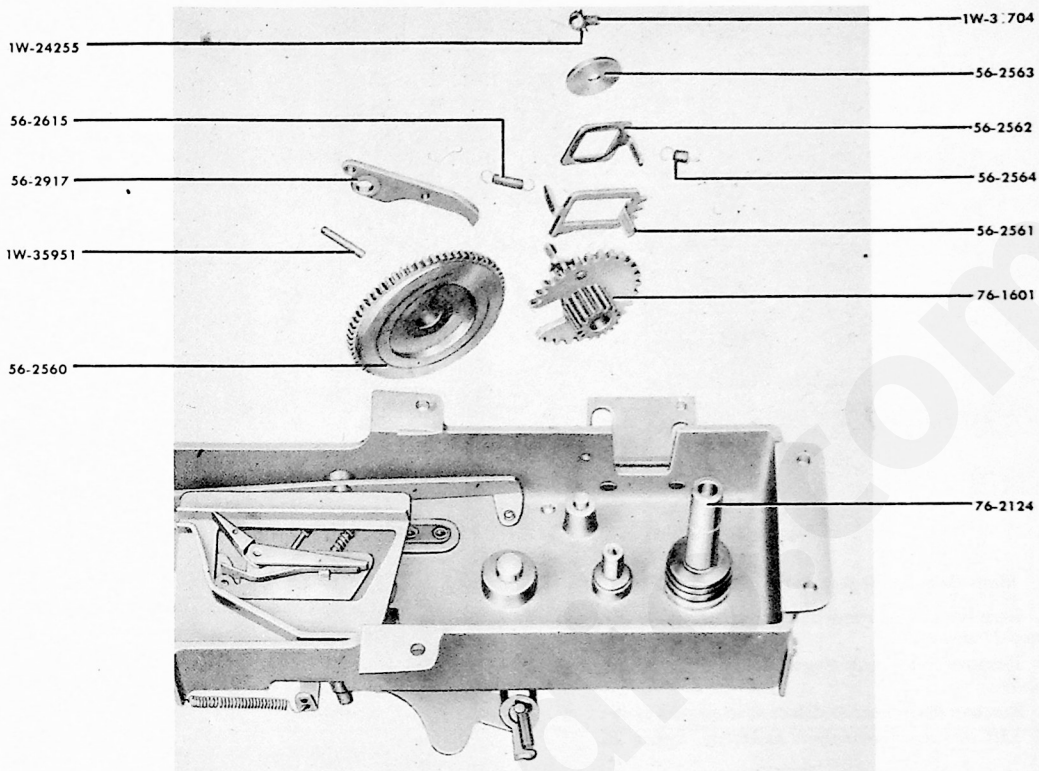

Figure 29—PARTS OF MAIN-GEAR AND INTERMEDIATE-GEAR ASSEMBLIES, UNDERSIDE VIEW.
- e. Lift out intermediate-gear assembly. Figure 29 shows the underside of the parts in the assembly.
- g. Drive out tapered pin 1W-35951 in main gear and lift out main gear. Figure 29 shows the underside of the main gear.